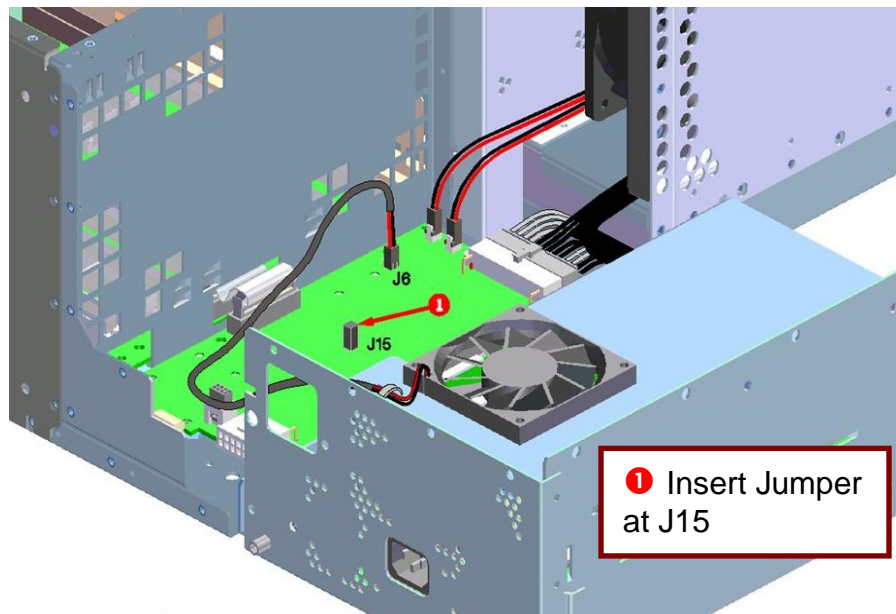

Figure 4
3. Install the supplied jumper at J15. This jumper controls cooling fan speed. The cooling fans will operate at normal speed when the jumper has been re-installed (Figure 4)
1. Reassemble Power Supply onto the chassis. Engage the alignment pins and be careful not to pinch any wires when attaching the Power Supply Assembly (Figure 4).